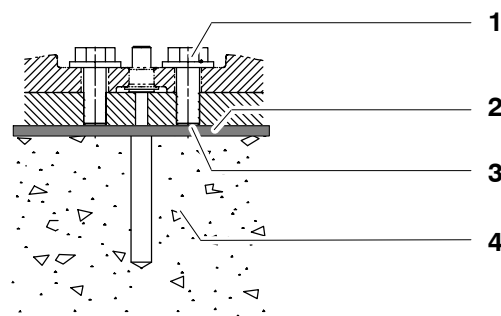

Fig. 47 Leveling compound
- (5) If necessary, determine the differences in level. If large differences in level are present, steps (6) to (9) must be followed.
- (6) Apply leveling compound (Fig. 47/2) to the concrete foundation (4) or the underside of the bedplates.